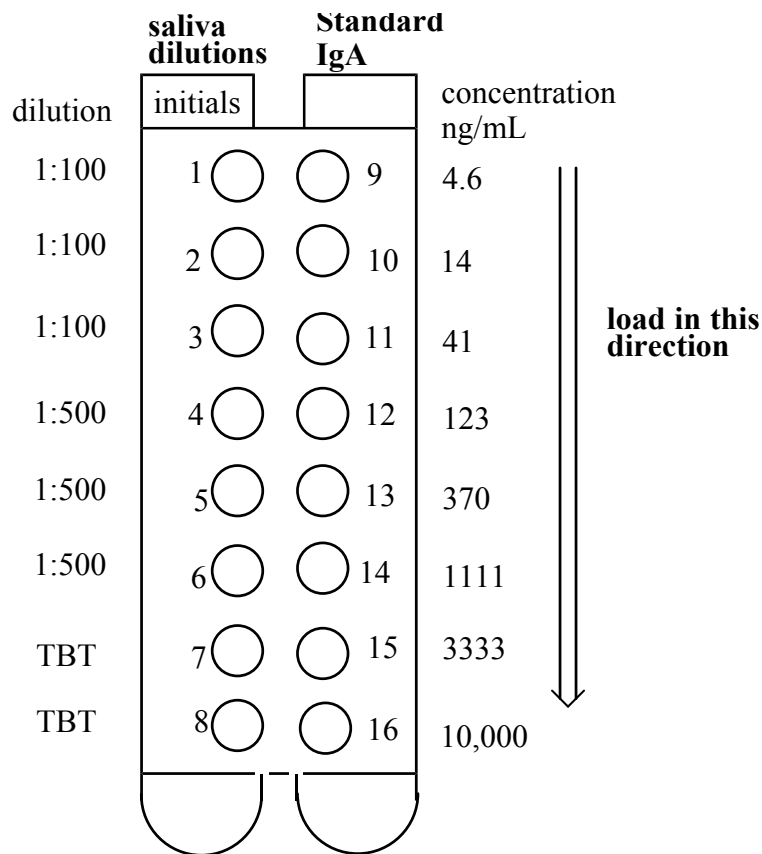

Figure 12. Diagram of samples in microtiter wells.
9. Now load the plate with your saliva dilutions and the IgA standards. First, use the micropipets to pipet 0.10 mL (100 uL) of the 1:100 saliva dilution in wells 1 through 3. The P-1000 pipet should read "010". Use one clean tip for all of the 1:100 dilutions. Next, pipet 0.10 mL of the 1:500 dilution into wells 4 through 6. Use one clean tip for all of the 1:500 dilutions. Then pipet TBT buffer only into wells 7 and 8. Use one clean tip for the TBT solutions. See figure 12, which shows schematically how to load the wells.